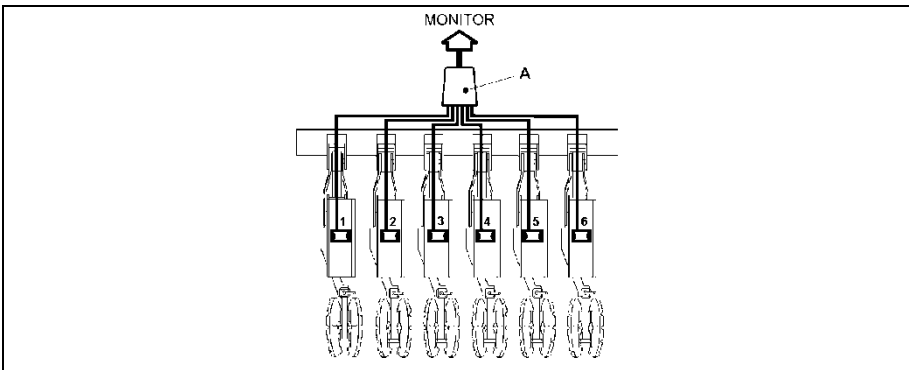

Figure 3. Wiring harness installation.
- distribute the wiring harness cables fastening them to the planter's air pipes with clamps, paying attention to the numbers on the cables near the connectors: cable no. 1 corresponds to row no. 1 of the Monitor, cable no. 2 corresponds to row no. 2 of the Monitor, etc... It is important to consider the planter's first row (starting from either right or left) as "no. 1 row" and that the other be connected in sequence: Figure 3 shows an example of a six-row wiring harness application taking the first row on the left of the planter, as reference;